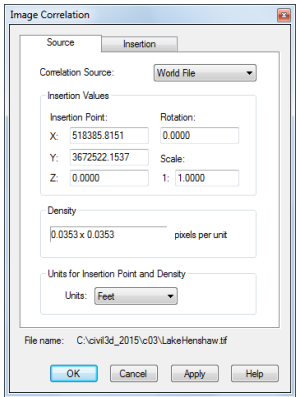

Figure 3-77 The *Image Correlation* dialog box
- 4. In the **Source** tab of the **Image Correlation** dialog box, select the **World File** option from the **Correlation Source** drop-down list, if it is not selected. Make sure the values of the parameters in the **Source** tab of the dialog box are set as shown in Figure 3-77.